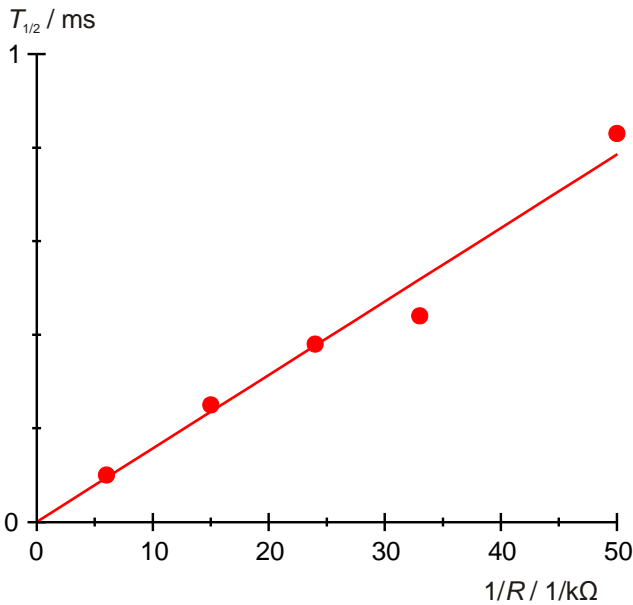

Fig. 5: Half-life $T_{1/2}$ as a function of the inverse of resistance R .
- Plot the half-life periods $T_{1/2}$ from Table 3 against the inverse of the ohmic resistance values R and fit a straight line through the origin (Fig. 5).
- To check equation (3), determine the inductance L from the measured gradient m_L .